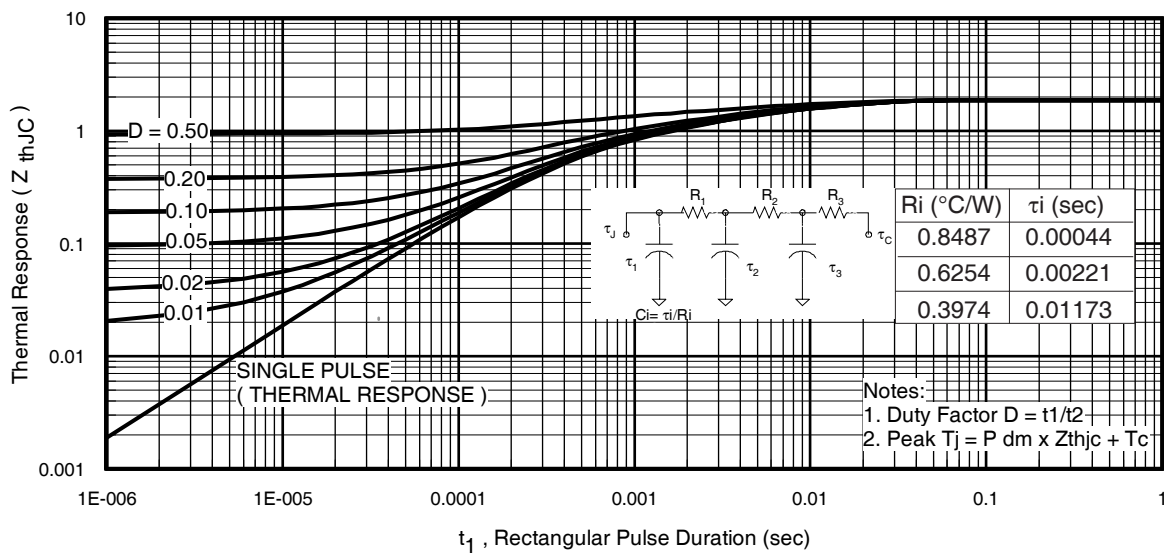

Fig 11. Maximum Effective Transient Thermal Impedance, Junction-to-Case
- ① Repetitive rating; pulse width limited by max. junction temperature. (See fig. 11).
- ② Limited by T_{Jmax} , starting $T_J = 25^\circ\text{C}$, $L = 0.18mH$, $R_G = 25\Omega$, $I_{AS} = 31A$, $V_{GS} = 10V$. Part not recommended for use above this value.
- ③ $I_{SD} \leq 31A$, $di/dt \leq 840A/\mu s$, $V_{DD} \leq V_{(BR)DSS}$, $T_J \leq 175^\circ\text{C}$.
- ④ Pulse width $\leq 1.0ms$; duty cycle $\leq 2\%$.
- ⑤ $C_{oss\ eff.}$ is a fixed capacitance that gives the same charging time as C_{oss} while V_{DS} is rising from 0 to $80\% V_{DSS}$.
$Z_{thJC}(D, t_{av})$ = Transient thermal resistance, see figure 11)